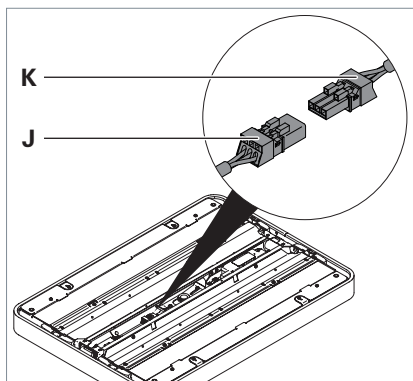

Fig. 11: Connecting the light head, Part 2.
- Connect the socket **K** to the plug **J** at the light head, see Fig. 11.